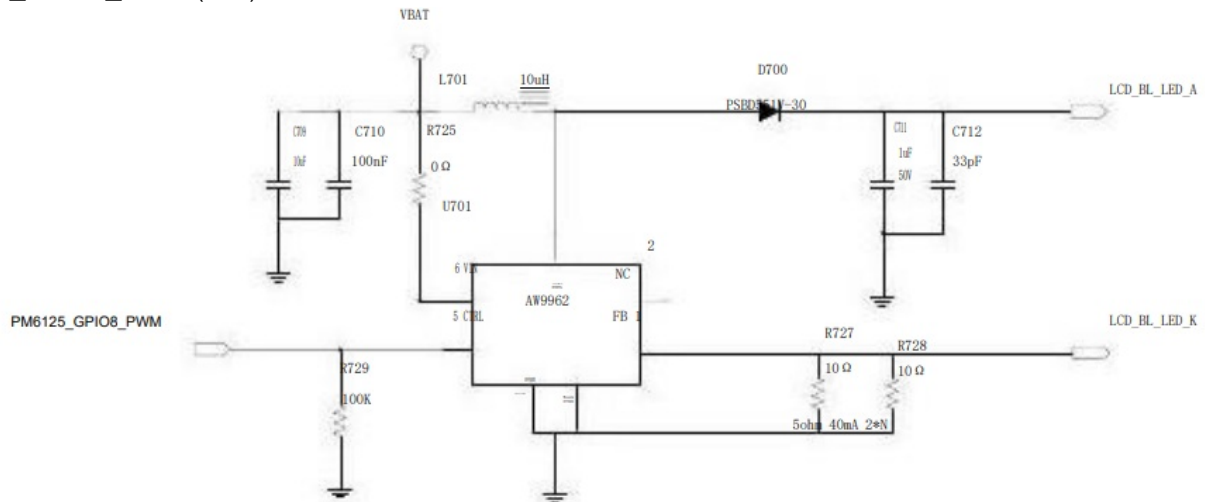

Figure 4.16 : External backlight circuit diagram
SLM920 module does not support backlight driver output, customers need to use external backlight driver. The backlight drive circuit can refer to Figure 4.16. The backlight brightness can be adjusted through PM6125_GPIO8_PWM (112) of the module , and the modulation mode is PWM **mode**.